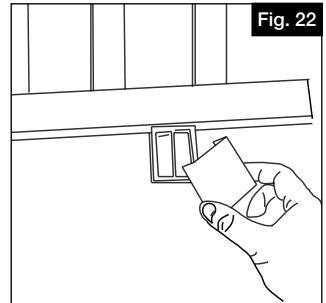

Fig. 22
- a. Attach the support foot to the deck surface using support foot screw and snap the cover into place (10' only) (Fig. 22).